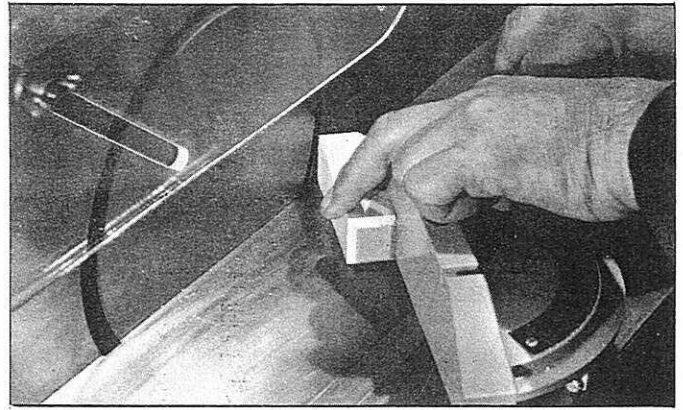

Fig. 39.
6. If all four edges are to be chamfered, the ends are chamfered first using the miter gage, as shown in Fig. 39.